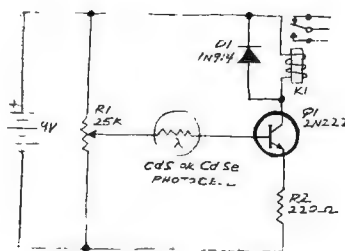

Fig. 5. Light-activated relay.
**Light-Activated Relay.** Finally, Figure 5 shows a simple but effective light-activated relay which uses only half a dozen components. As light falling on the photoresistor increases in intensity,  $Q_1$  turns on and energizes the relay.  $D_1$  prevents any high-voltage kick created when the relay coil turns on and off from damaging  $Q_1$ . I used a 2N2222 for  $Q_1$ , but any general-purpose npn switching transistor will work. Resistor  $R_1$  serves as a voltage divider which sets the circuit's trigger point. ◇